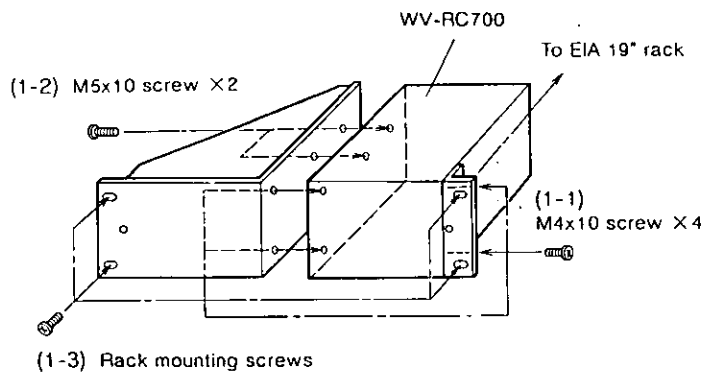

Fig. 1
- 1-1. Fix one Rack-mounting Angle (161) to the either side by using two screws (M4×10, provided).
- 1-2. Attach the Rack-mounting Spacer (162) to the Remote Control Unit by using four screws (Two M5×10 and two M4×10, provided).
- 1-3. Mount the Remote Control Unit onto the EIA 19" rack by using four rack mounting screws (not provided) as shown in Fig. 1.